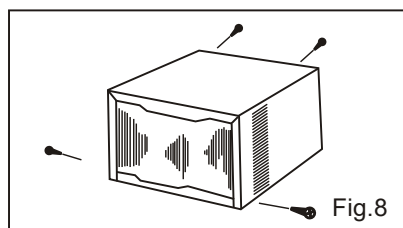

Fig.8
5. Remove the screws that fix the chassis-fixing board and cabinet. Some models have two more screws on the back of the cabinet. (Fig.8)